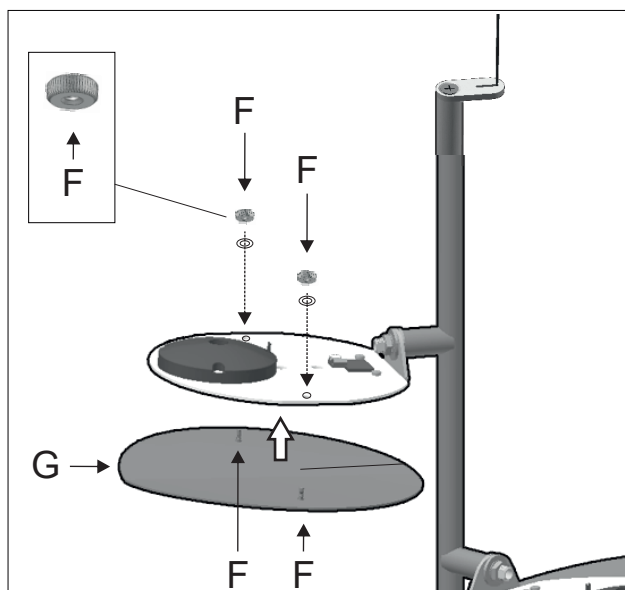

Figure 6
**Attention:** Make sure that the fold of the screen is on the inside. Figure 6.